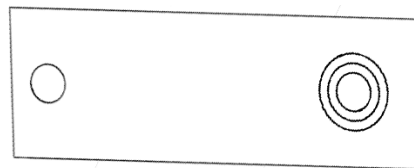

Figure 5-14: Bullseye design (not present on actual swipe) indicates Zone of Analysis
Step 2: Sample in the center of the bottom 1 in. (2.5 cm) square of the swipe as shown in Figure 5-14.